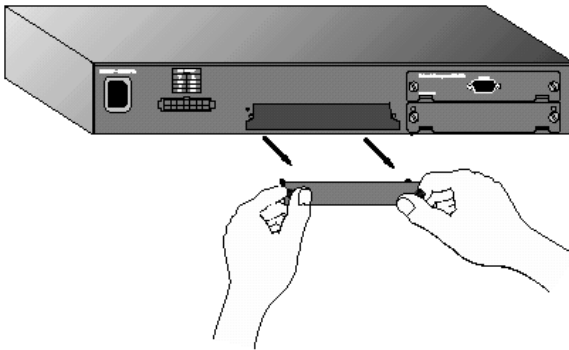

Figure 1 Removing the Faceplate
2. Using a flathead screwdriver, remove the faceplate from the lower left expansion slot (slot B) on the rear panel of the switch, as shown in Figure 1.